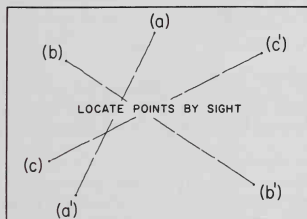

Fig. 2-5. Layout for Section C, Plate No. 4.
1. In section C, follow the procedure for sketching horizontal or vertical lines, and sketch inclined lines between the three sets of points (a-a', b-b', c-c') as shown in Fig. 2-5.